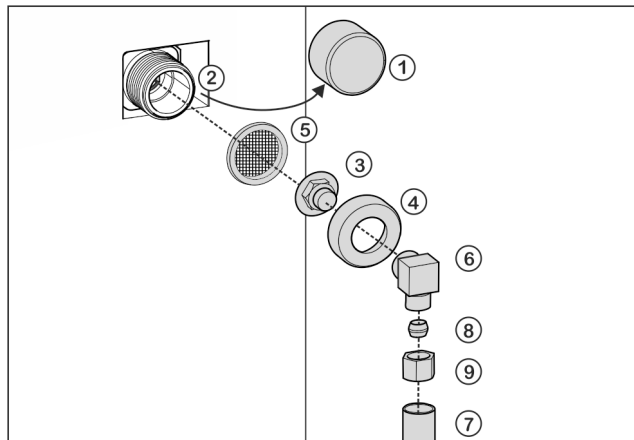

Fig. 15
- ▶ Remove cap *Fig. 15 (1)* from solenoid valve *Fig. 15 (2)*.
- ▶ Insert coupler *Fig. 15 (3)* into union nut *Fig. 15 (4)*.
- ▶ Insert the filter *Fig. 15 (5)* with the recess pointing down towards the coupler *Fig. 15 (3)*.
- ▶ Screw the union nut *Fig. 15 (4)* by hand onto the thread of the solenoid valve *Fig. 15 (2)* until it is firmly in place.
- ▶ Screw on angle piece *Fig. 15 (6)*.
- ▶ Connect the water pipe *Fig. 15 (7)* (e. g. 1/4" OD copper pipe) with the clamp ring *Fig. 15 (8)* and nut *Fig. 15 (9)* to the elbow connector *Fig. 15 (6)*.
- ▶ If necessary: Fasten the water pipe *Fig. 15 (7)* to the housing with the guide clip.
- ▶ Put angle piece *Fig. 15 (6)* to one side.
- ▶ Connect the water pipe *Fig. 15 (7)* (e. g. 1/4" OD copper pipe) with the clamp ring *Fig. 15 (8)* and nut *Fig. 15 (9)* to the coupler *Fig. 15 (3)*.